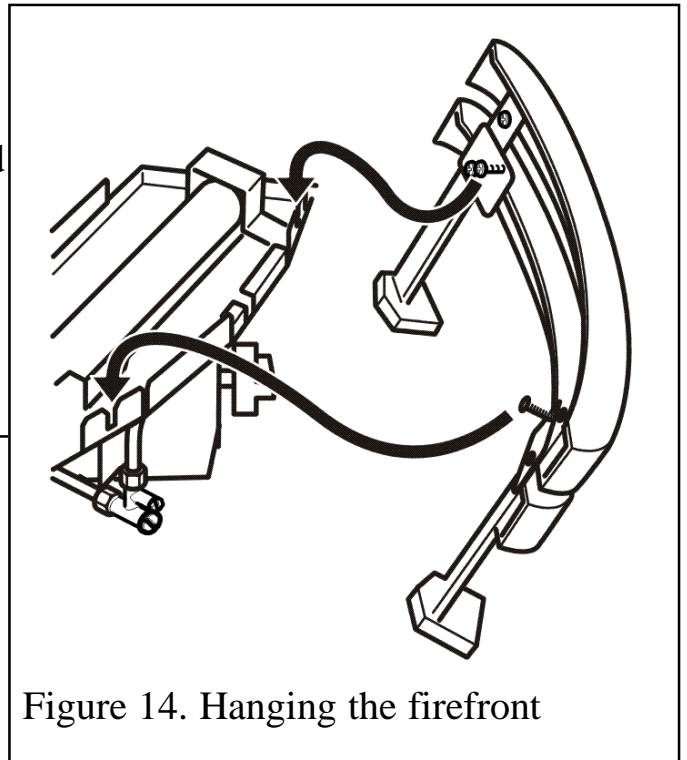

Figure 14. Hanging the firefront
3. Locate the firefront as in figure 14. The screw heads should locate into the slots in the burner tray.